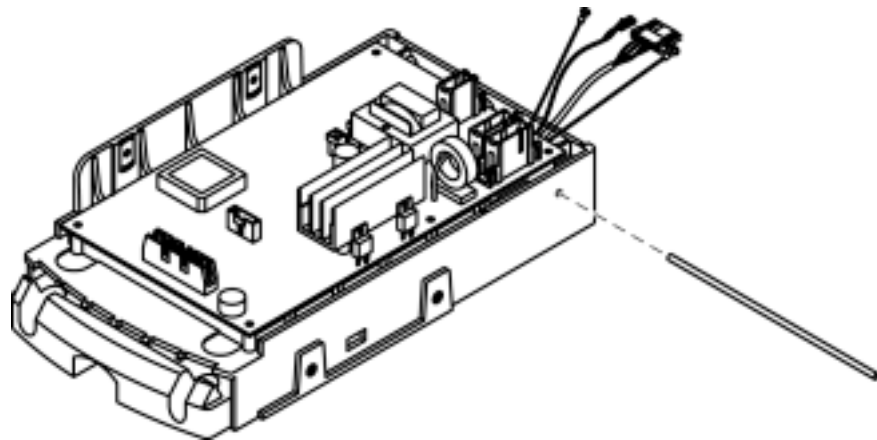

Figure 30: Door Assembly Pin
7. Remove the door assembly pin from the chassis assembly. See Figure 30.